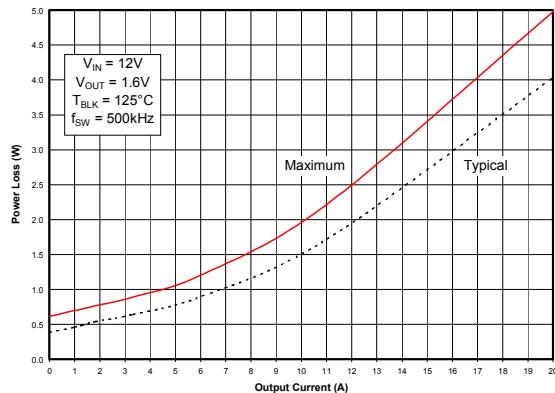
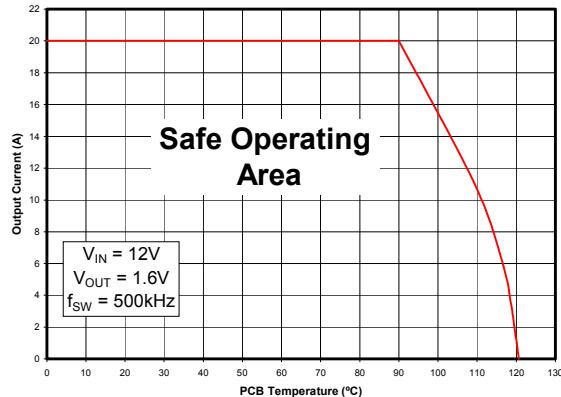
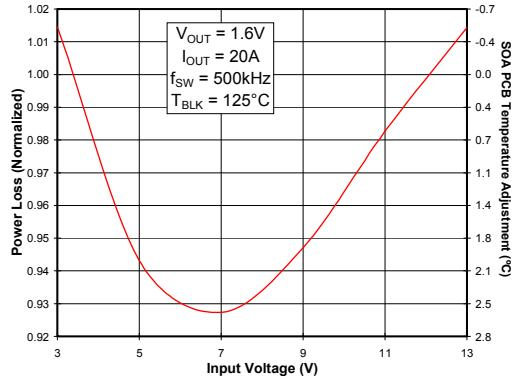

Fig 1. Power Loss vs. Current
Fig 2. Safe Operating Area (SOA) vs. T_{PCB}
Fig 3. Normalized Power Loss vs. V_{IN}
To make adjustments to the power loss curves in Fig. 1, multiply the normalized value obtained from the curves in Figs. 3, 4, 5 or 6 by the value indicated on the power loss curve in Fig. 1. If multiple adjustments are required, multiply all of the normalized values together, then multiply that product by the value indicated on the power loss curve in Fig. 1. The resulting product is the final power loss based on all factors.
To make adjustments to the SOA curve in Fig. 2, determine the maximum allowed PCB temperature in Fig. 2 at the required operating current. Then, add the correction temperature from the normalized curves in Figs. 3, 4, 5 or 6 to find the final maximum allowable PCB temperature. When multiple adjustments are required, add all of the temperatures together, then add the sum to the PCB temperature indicated on the SOA graph to determine the final maximum allowable PCB temperature based on all factors.
- (Fig. 1) Maximum power loss = 5W
- (Fig. 3) Normalized power loss for input voltage ≈ 0.925
- (Fig. 2) SOA PCB Temperature = 90°C
- (Fig. 3) Normalized SOA PCB Temperature for input voltage $\approx 2.6^\circ\text{C}$